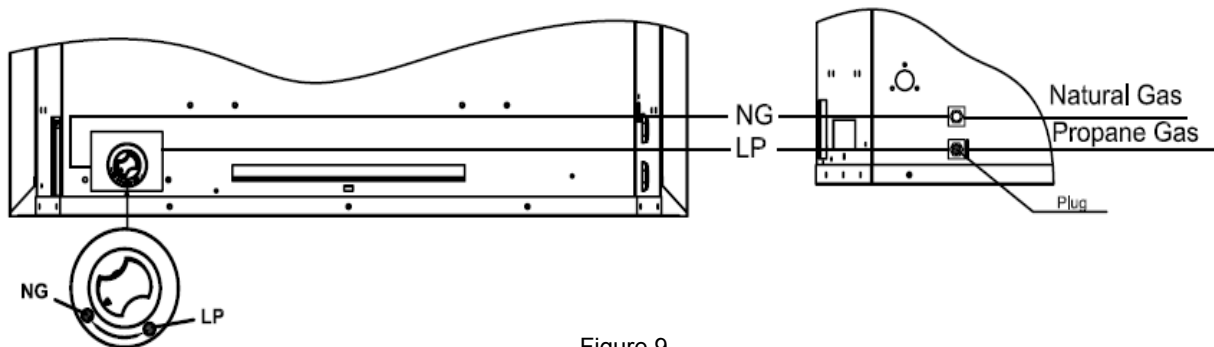

Figure 9
2. For NATURAL GAS, press in knob using a flat screw driver with a blade the width of a quarter and turn knob clockwise  until the knob locks into the NG position (see Figure 9). Selection valve must be locked into the NG position. Do not operate heater between locked positions!